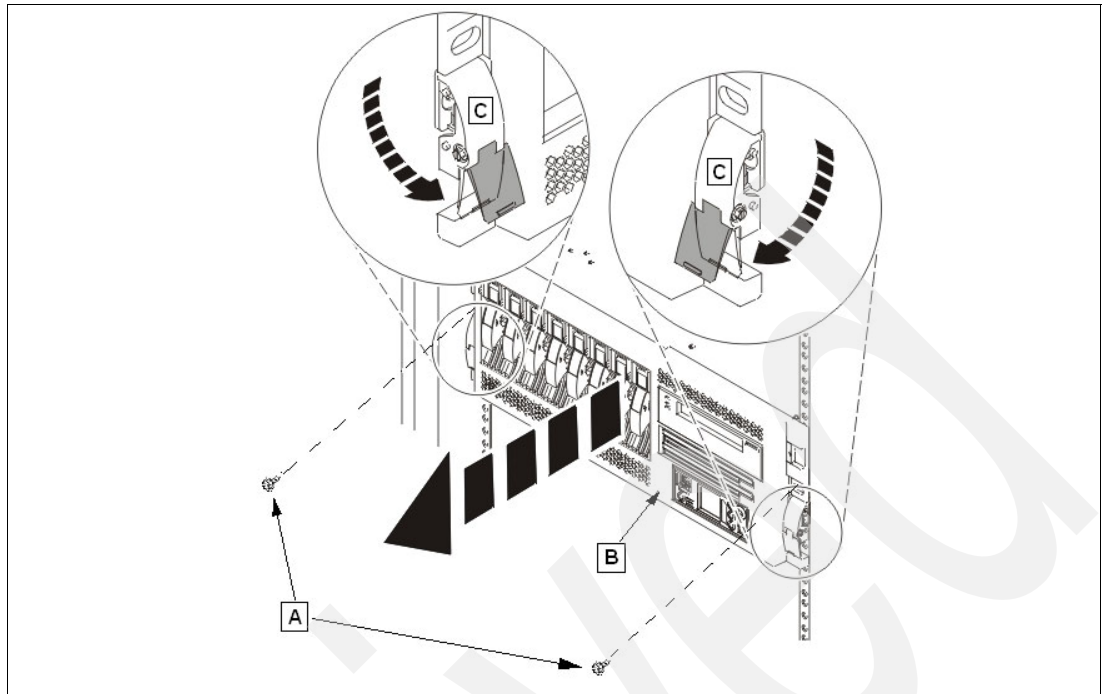

Figure 2-20 Pull the server to the service position
2. Remove the two thumbscrews (A) that secure the system or expansion unit (B) to the rack, as shown in the Figure 2-20 on page 68.
3. Release the rack latches (C) on both the left and right sides, as shown in the Figure 2-20.